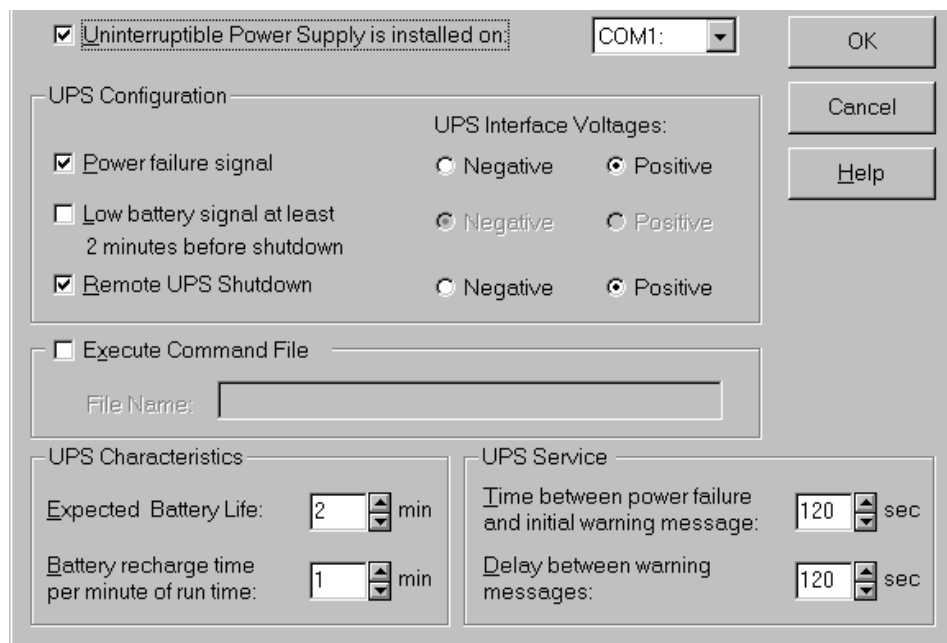

Figure 5-36 UPS Configuration Window
Step 2. Click on the **UPS icon** to open the **UPS** configuration window of Figure 5-36.